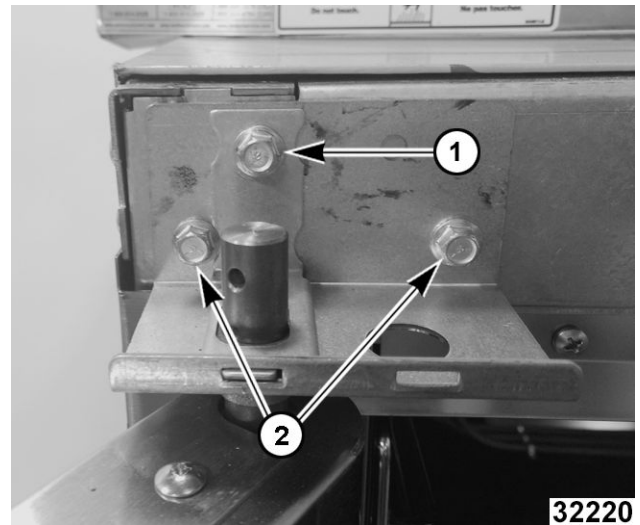

Fig. 38
3. While supporting door, remove hex bolts holding upper bearing retainer (1, Fig. 38) and upper shaft bracket (2, Fig. 38).